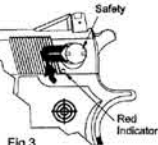

Fig. 3
- Rotate the safety lever clockwise up to the horizontal position exposing the RED indicator. (Fig. 3)